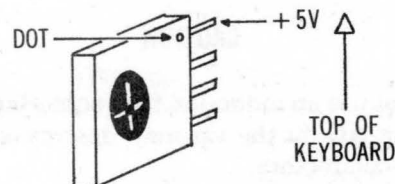

Figure 3-18 Orientation Of New Element
4. Orient the new element within the new housing so the pin nearest the dot will be connected to +5V ((dot towards top of keyboard) See Figure 3-18). Insert the housing until it clicks in place. Solder the four pins and replace the keytop.